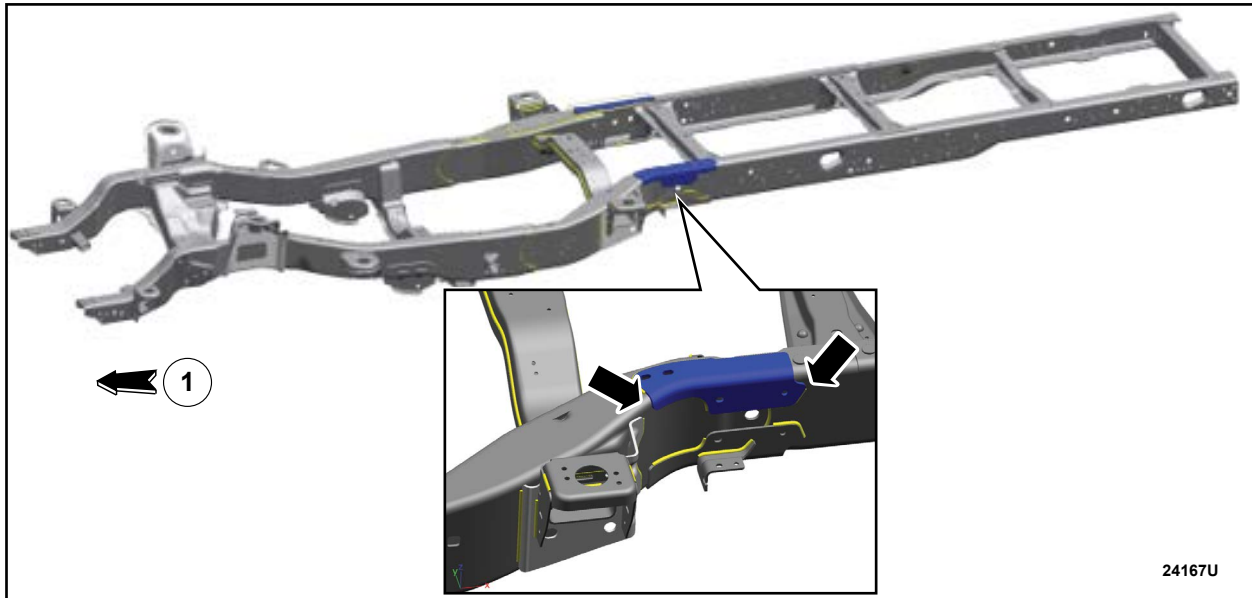

FIGURE 1
1. Identify and inspect the areas where the frame rail may exhibit signs of stress or a crack. See figures 1 through 6. Using compressed air, clear any debris that may be on the frame rails.
LOCATION 1 - UPPER FRAME RAIL BEHIND CAB - See Figures 1 and 2.